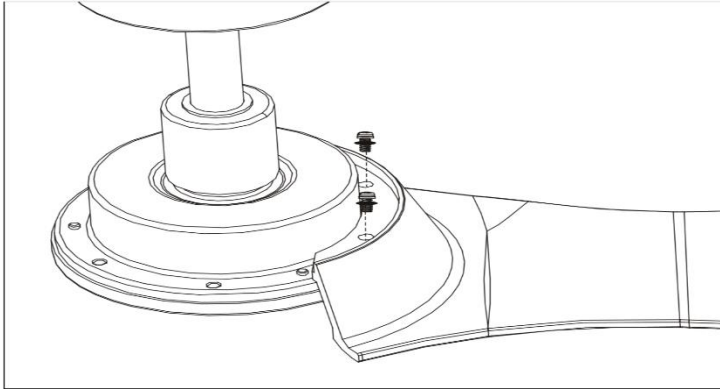

Fig.4
**INSTALLATION OF BLADE (Fig. 4)**